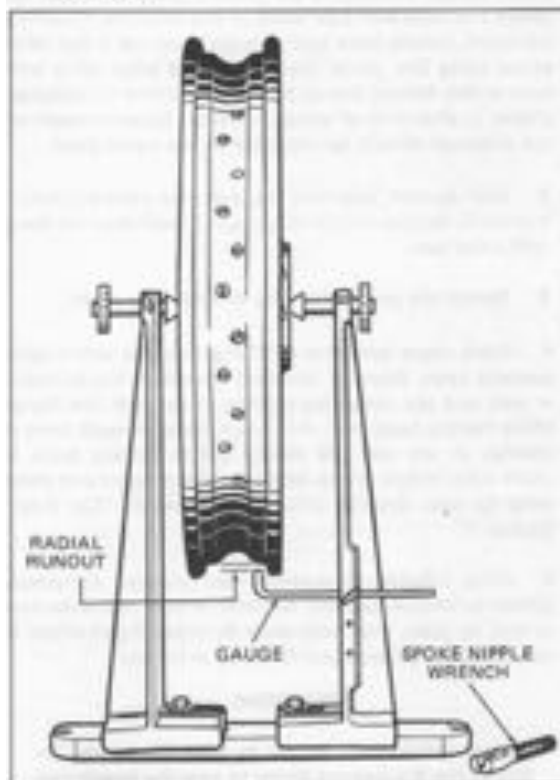

Figure 2-18. Truing Rim Radially
5. See Figure 2-18. After rim has been centered sideways it must be checked and trued radially. Adjust truing stand gauge to the rim's tire bead seat as shown. The rim should be trued within  $1/32$ ".